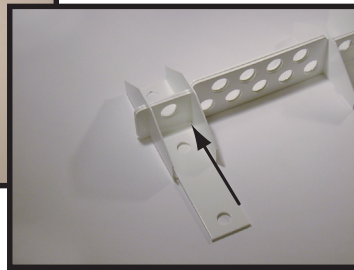

FIGURE 2c
- iii. Slip the Support Plates into the slots (both ends) created by the mating of the Shackle Cross Members and the Cross Member Support (as shown in figure 2c).